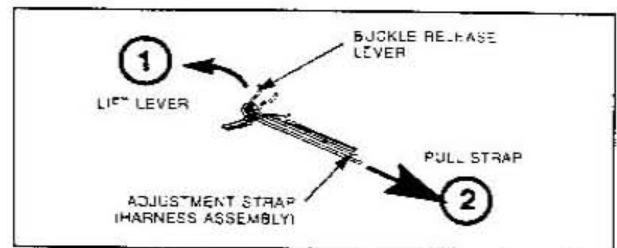

Figure 2 - Strap and Buckle Assembly
1. Adjust straps of head harness assembly to the full outward position (see Figure 2). To adjust straps, simultaneously lift the buckle release lever (away from harness strap) and pull head harness strap until end of strap is against buckle. Repeat this procedure for all four straps.